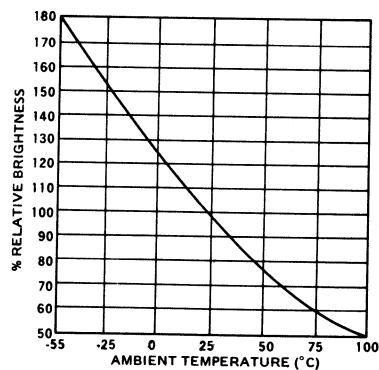

Figure 2 Brightness vs. Temperature
2. The curve in Figure 2 is normalized to the brightness at 25°C to indicate the relative efficiency over the operating temperature range.